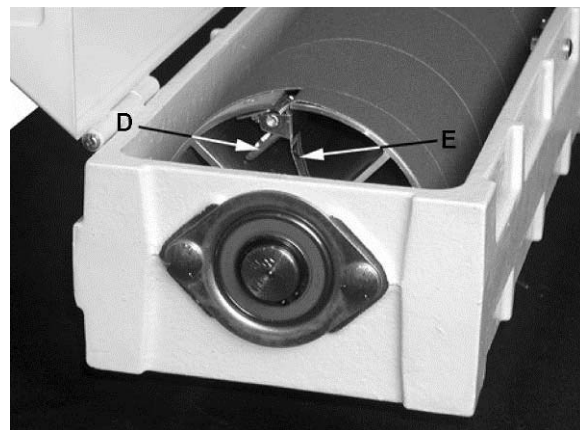

Figure 9
2. Raise the fastener lever (D, Fig. 9) on the outboard end of drum, and insert the tapered end of the abrasive (E, Fig. 9) so that it uses most of the width of the slot. Release the fastener lever to securely hold the strip end to the fastener.